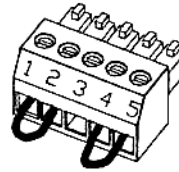

Figure 3-2: sense connector default connection
- Sense connector: configured to Local Sense as shown in Fig.3-2.